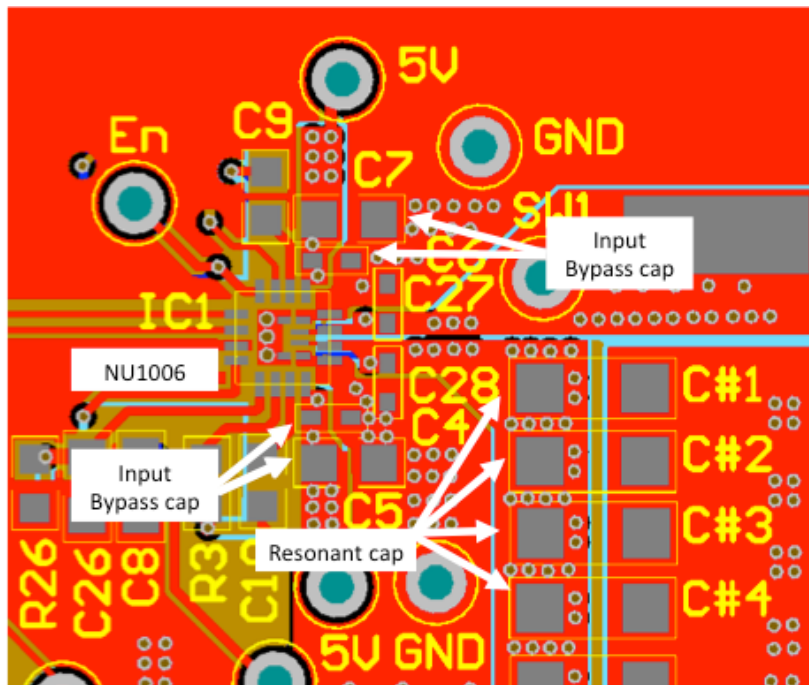

Figure 13 NU1005/6 Bypass Capacitor Layouts
- Place small size of input capacitors as close as possible between the Vin pin and PGND pin. These capacitors can effectively filter out high-frequency noises due to its low ESR and ESL. Please refer to C4 and C6 of Figure 13.